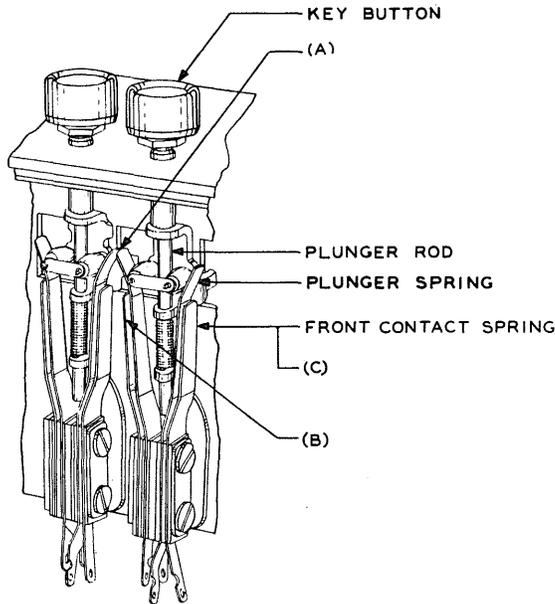

Fig. 5—Spring Clearance—Adjacent Plungers Operated
- (b) **Fig. 5(A)**—There shall be a clearance between the springs of spring assemblies in adjacent positions, when two adjacent plungers in the same row are depressed simultaneously, of
(a) Fig. 5(B)—*On units equipped with make contacts only*, the contact pressure between the normally open contacts, when the plunger is in the operated position, shall be
***2.08 Contact Follow:** Fig. 5(C)—There shall be a follow after closing any contact of